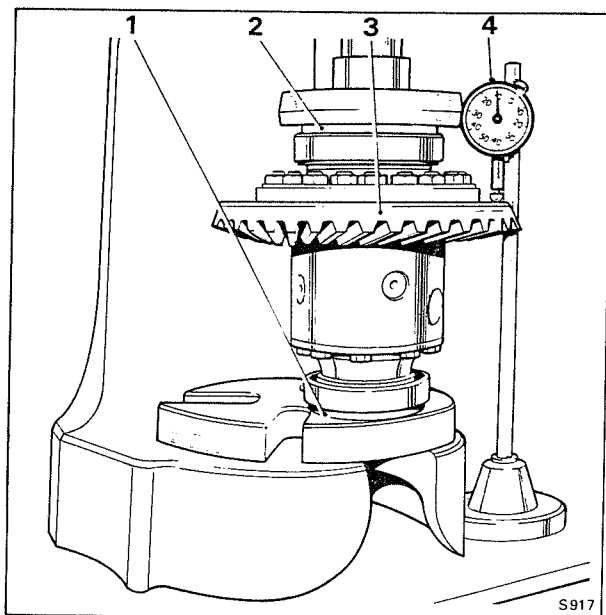

Fig. J5 Checking the crown wheel
13. Place the roller bearing outer tracks in position and stand the assembly on one end. Position the assembly in a press with one adjusting washer fitted to each bearing (see Fig. J5).